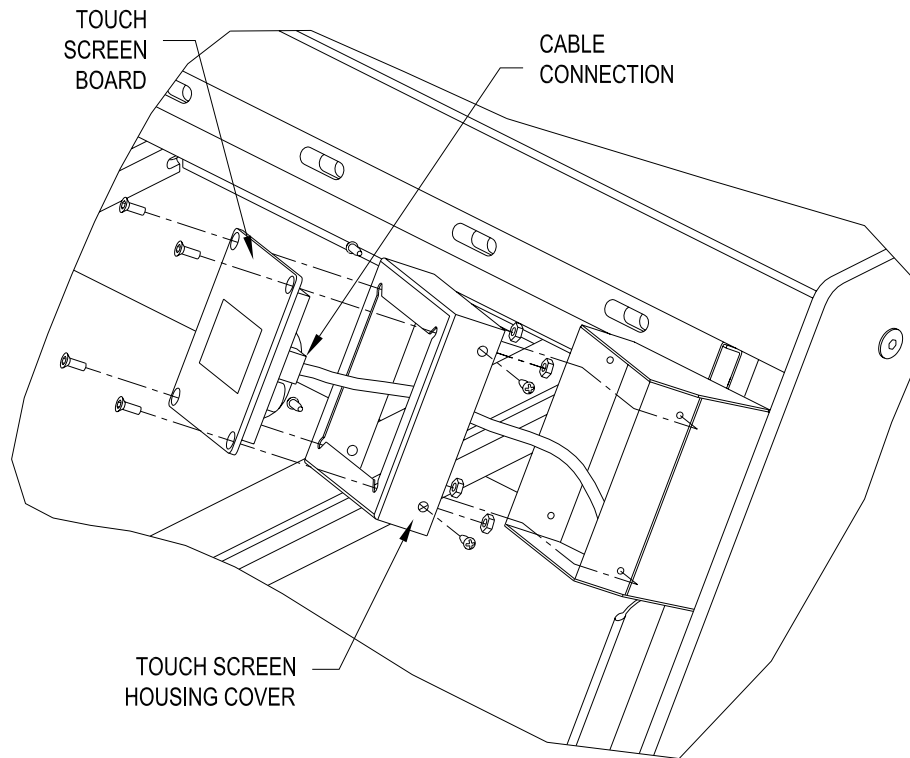

Figure 15. Touch Screen Board
2. Remove the (2) screws from each side of the touch screen housing cover (see Figure 15).
4. Unplug the cable from the touch screen board (see Figure 15) by depressing the tab on the side of the connector and pulling the connector straight out of its socket.
6. Slide contact block mount back into position on the pushbutton operator oriented as shown in Figure 15. Push the contact block mount in until it snaps into place.